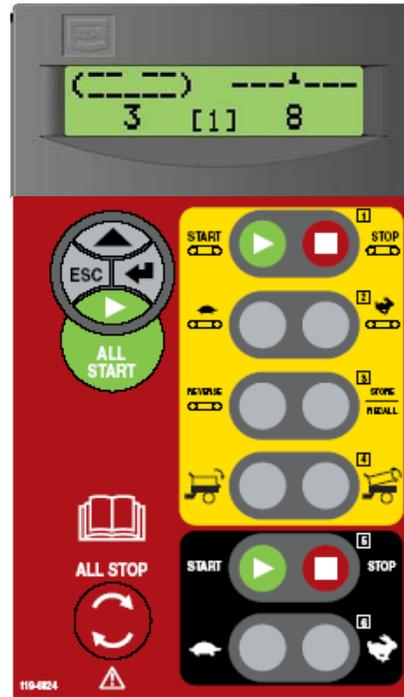

Figure 15: Control Pendant For EH Models
2. Use the jack handle to open or close the adjustable section of the rear gate (Figure 15). This restricts the flow of materials when using an option.